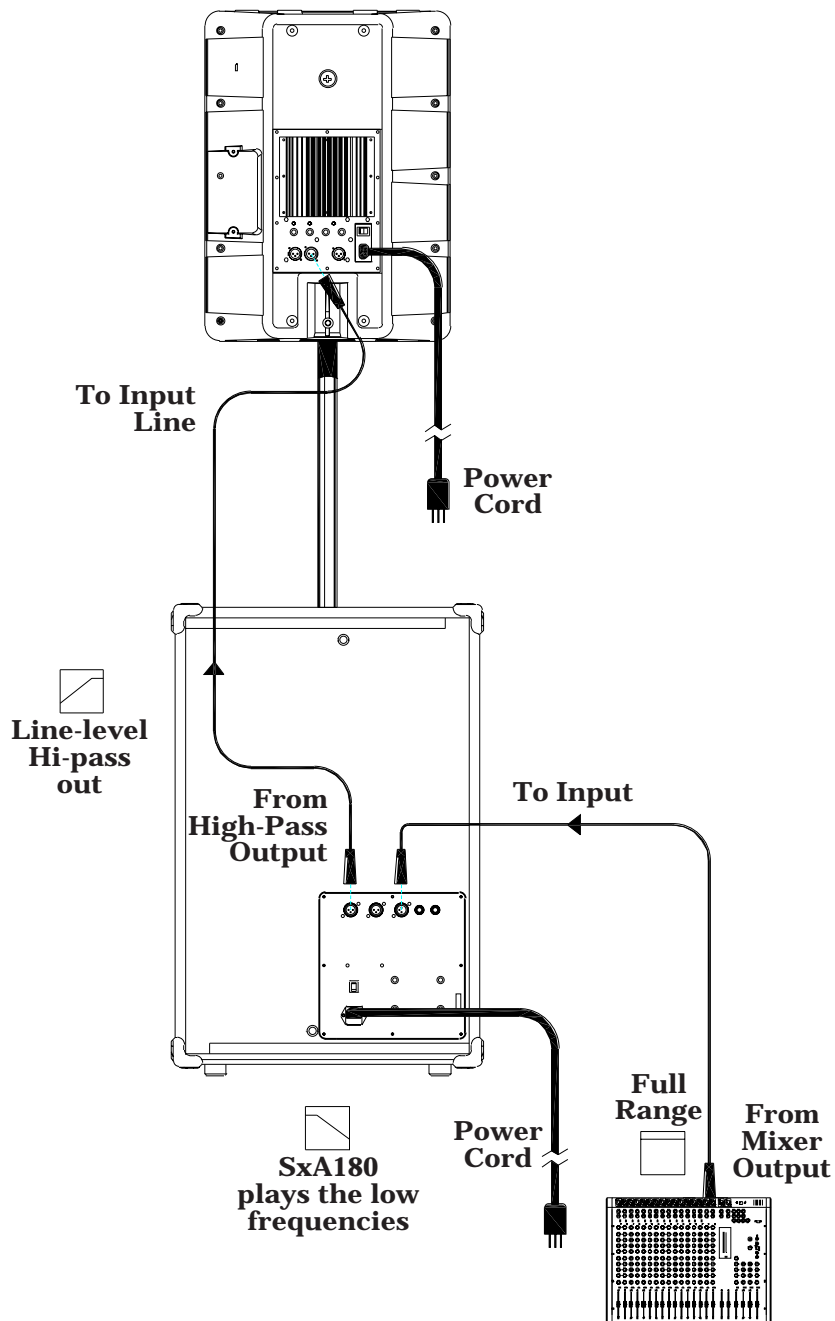

**Figure 5:**
- If you are using the SxA180 with an SxA two-way system, you will want to use the high-pass output to run the signal from the SxA180 to the two-way (See Figure 5). Using the filtered output will insure that the SxA180 only is reproducing low bass information which will let the two-way system sound cleaner and play louder. The unfiltered output is the best way to parallel the signal to other SxA180s or if you want more mid-bass output from the speaker setup.